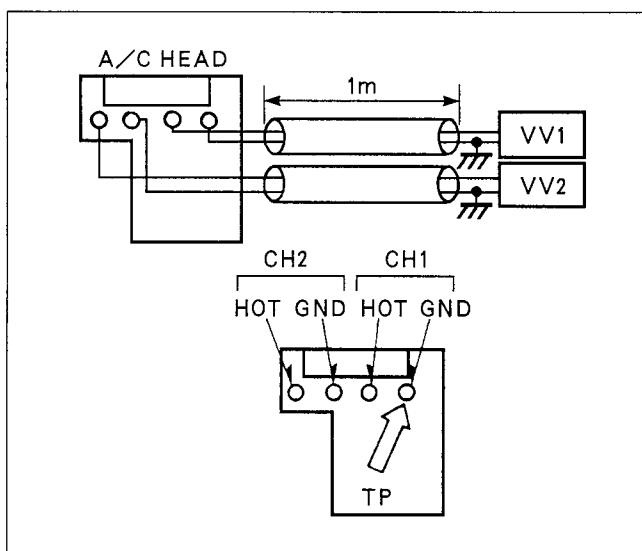

Figure E50
2. Connect the V.T.V.M.(D.V.M.) to the A/C Head as shown in Figure E50.